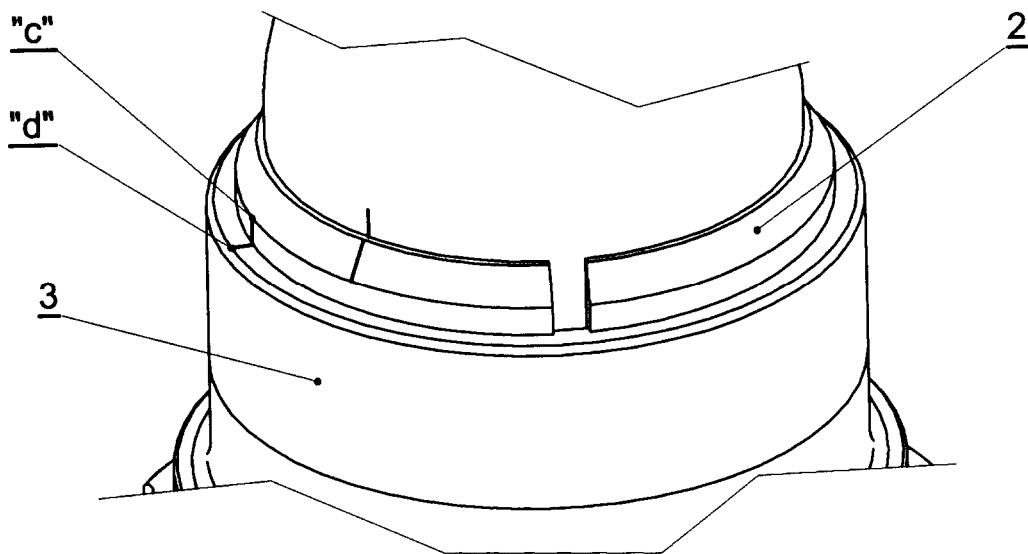

Fig.505 Blade sleeve and bush adjustment
- (6) Install the new seal [000-6142].
- (7) Before the installation:
- (8) Install sleeve on the sleeve carefully to have its edges into throat and plane surface.
- (9) Install the sleeve support (12) on the sleeve to touch sealing sleeve (11), insert sleeve ~1 mm under sleeve edge by support using.
- (10) Extend the sleeve by using forceps and install on the sleeve, turn to mark "d" on the sleeve covers mark "c" on the sleeve (see Fig.505).